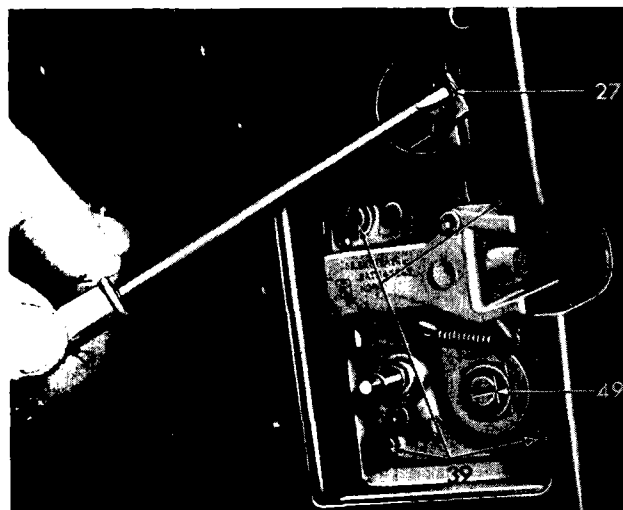

Fig. 32. Remote control link attachment to lock
1. **To Remove** (Fig. 32)
- (b) Take out the screws (39) and (49) securing the lock to the door panel.
- (b) (For drivers door only). Take out the screw (49) (Fig. 32) from the centre of the spindle.